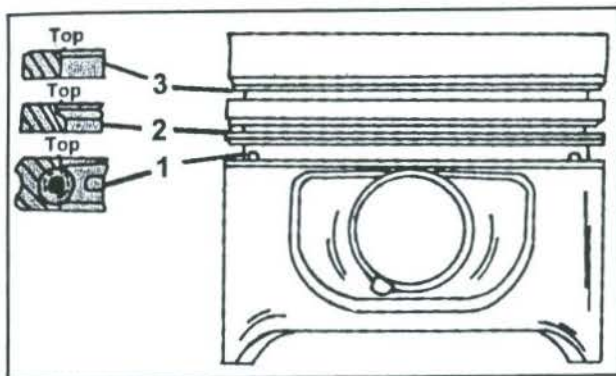

Fig. 1.40 - Sectional of a piston, concentrating on the piston rings.
- Using a pair of piston ring pliers, fit the piston rings from the top of the piston, starting with the bottom ring. The two compression rings could be mixed up and Figs. 1.40 should be referred to avoid mistakes. Under no circumstances mix-up the upper and lower compression rings.